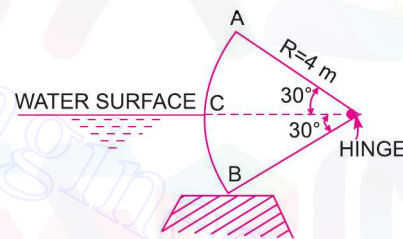

Fig. 3.60
21. Find the horizontal and vertical components of the water pressure exerted on a tainter gate of radius 4 m as shown in Fig. 3.60. Consider width of the gate unity. [Ans.  $F_x = 19.62 \text{ kN}$ ,  $F_y = 7102.44 \text{ N}$ ]